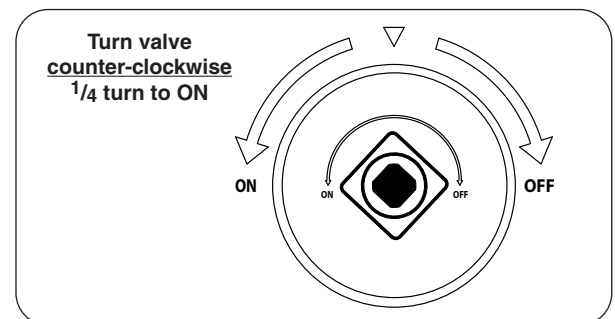

Fig. 39-2 ON/OFF key valve detail
3. Turn the ON/OFF key valve counter-clockwise a $1/4$ turn to the **ON** position (Fig. 39-2).